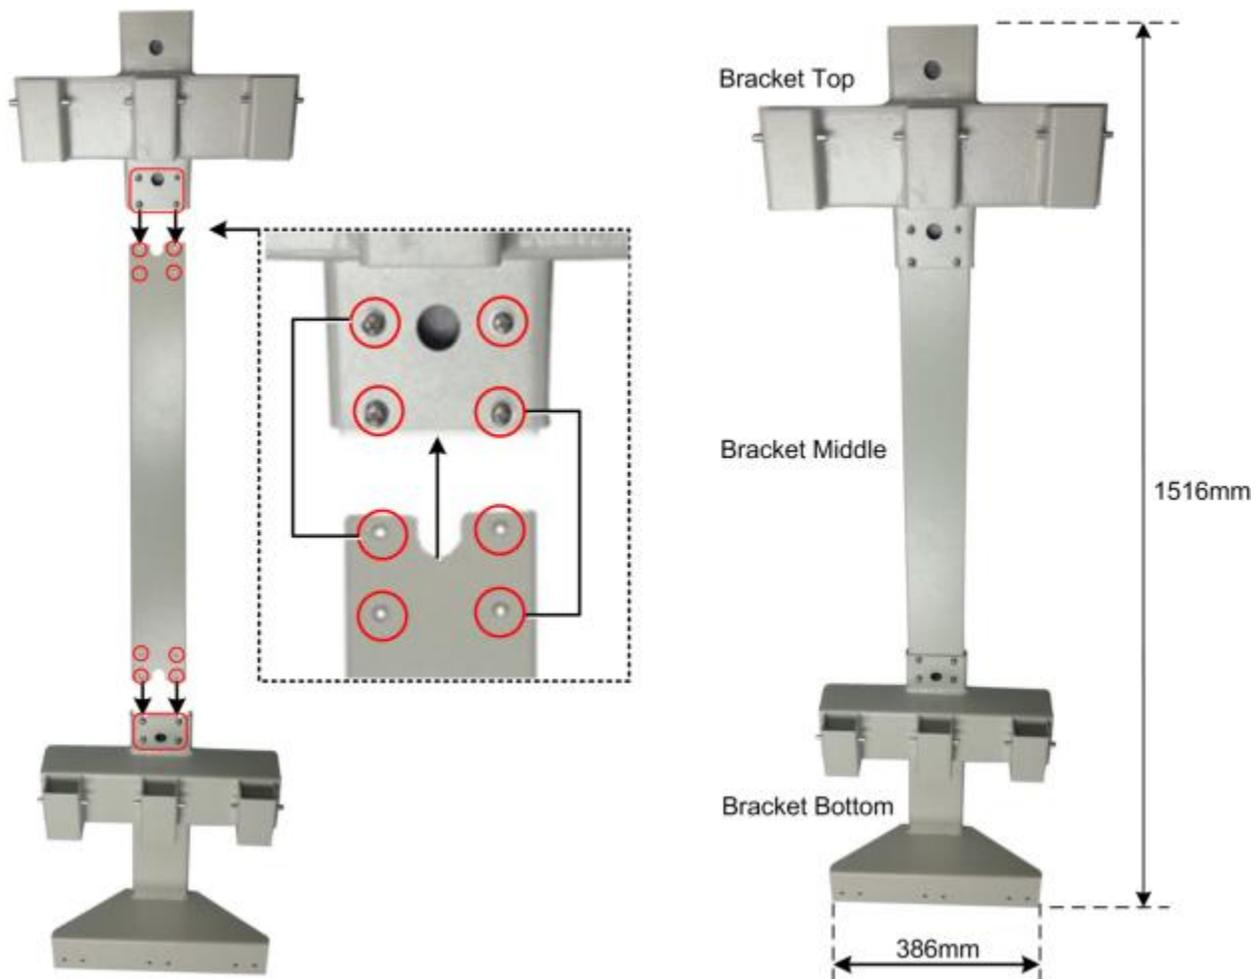

Figure 3-18. Wooden Pole Bracket Assembly
1. Using the eight M6×16 hex socket screws and the relevant washers, assemble the three parts of the Pole Bracket as shown in Figure 3-18.